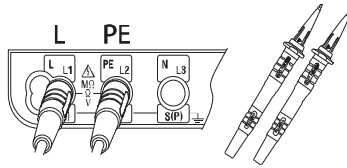

Fig. 47
2. Insert the Test Leads into the instrument. (Fig.47)